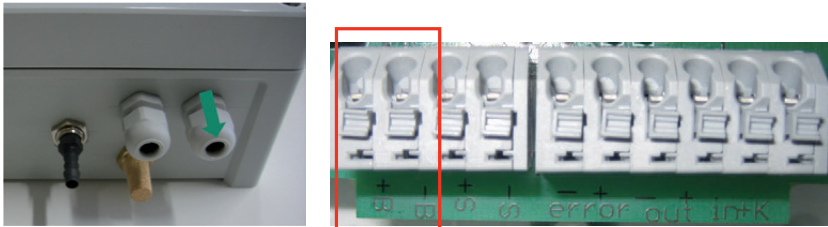

Figure 21: Connection terminal for power supply
5. Pull the 1.5mm² connection leads equipped with wire termination through one of the cable bushings of the housing and attach each lead to the corresponding terminal inside the pump- and control unit (refer to Figure 21). '+B' will be connected to battery plus and '-B' to battery minus.